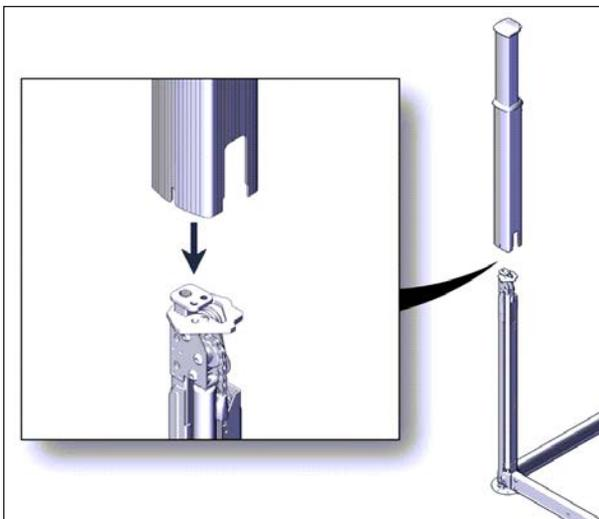

FIGURE 26: SLEEVE INSTALLATION
20. Slide the sleeves over all four jacks, see Figure 26.